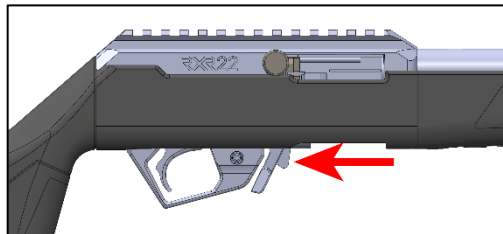

Figure 16
- To lock the bolt in the open position, pull fully rearward on the cocking handle. Press rearward on the bottom of the bolt lock and allow the bolt to move slightly forward from the rearmost position - Figure 16.